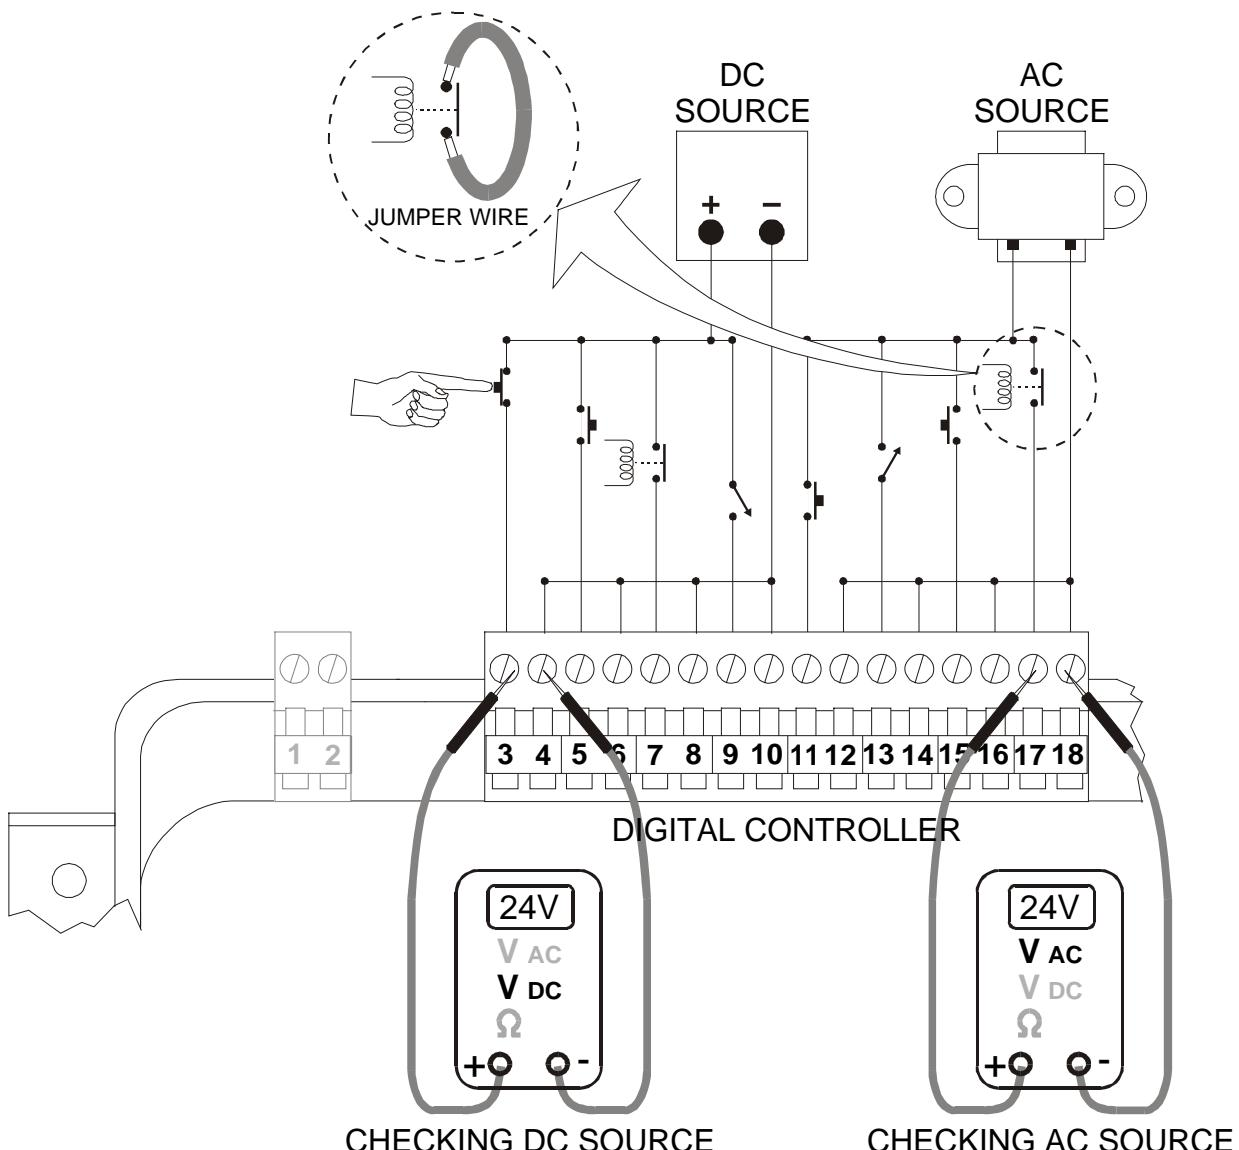

Figure 4-2. Checking Digital Input Wiring.
Figure 4-2 is a schematic representation of a typical Digital Controller installation containing AC- and DC-powered digital inputs and how the wiring can be checked using a digital voltmeter. Use Figure 4-2 for reference when performing the following procedures:
- Connect the voltmeter to the first digital input channel (Terminals 3 and 4 for the Genesis II Digital Controller). Observe polarity, ensuring the red (+) test lead is connected to the positive terminal (3) and the black (-) test lead is connected to the negative terminal (4).
- e. With the voltmeter still connected, manually close the input contacts. If it is not possible to close the circuit manually, connect a jumper wire across the contacts at the switching device, as shown in Figure 4-2.